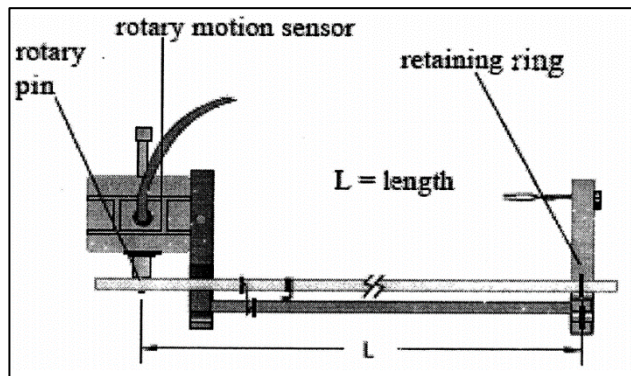

Figure 9 Measuring rod length.
1. With a measuring tape or metric ruler, measure the length L of the aluminium rod at room temperature. Measure from the center of the retaining ring (in the groove of the small end block) to the center of the rotary pin at the other end (see Figure 9). Record your results.